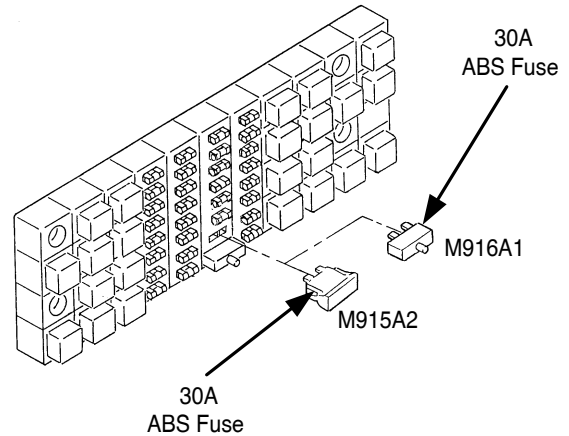

Figure 15. Relay/Fuse Panel Under Dash
- Remove 30A ABS fuse (Figure 15).